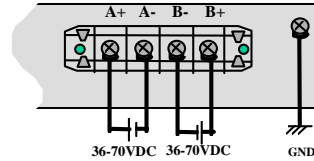

Figure C5.0: -48VDC Dual-Source, wiring connections to the External Terminal Block on a Magnum 48VDC with Dual-Source option
The -48VDC terminal block on the Magnum 4K-Series Switch is located on the right rear of the unit and is equipped with five (5) screw-down lead posts (see Fig C5.0). The primary terminals are identified as positive (A+), negative (A-), and the secondary power terminals as negative (B-), positive (B+). The chassis “earth” or ground (GND), is a threaded post with a #6 nut.